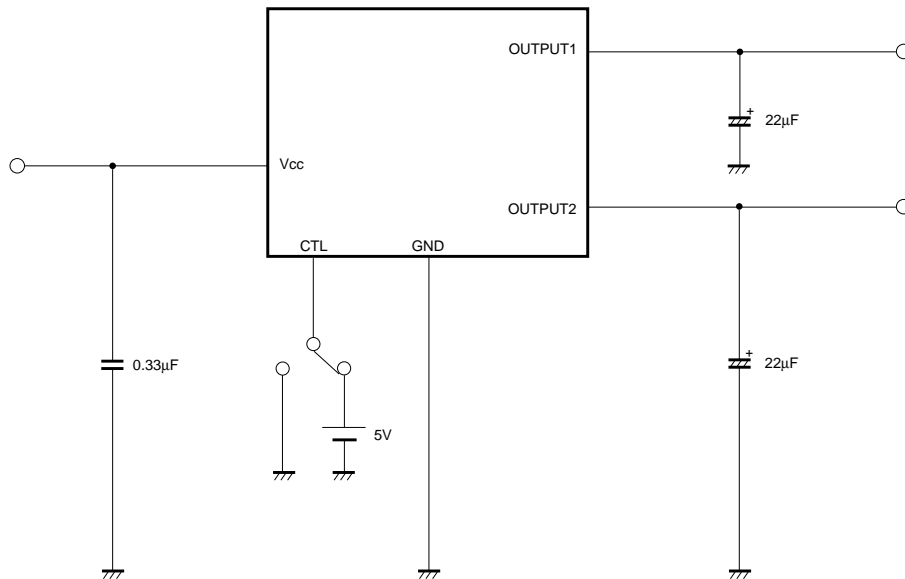

Fig.8
- (1) The application circuit of Fig.8 is recommended for use. Make sure to confirm the adequacy of parts characteristics. When using the circuit with changes to external circuit constants, make sure to leave sufficient margins in consideration of fluctuations in the IC and external components including static and transitional characteristics. Note that ROHM has not carried out extensive survey regarding the patent right of this application.
- (2) Operating power supply voltage